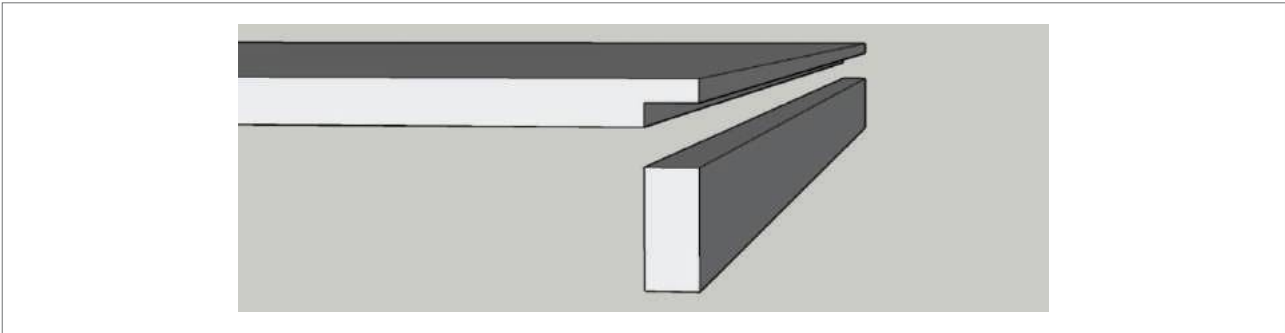

Fig.6
- Drop edges can sometimes be applied on edge, primarily for deeper build-downs. The best way to achieve this detail is to first rebate the underside of the sheet to a depth of approx. 2mm. Fig.6.